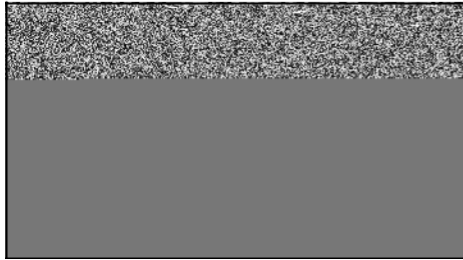

Figure 8
1. 0.5 Amp DC Only (Figure 8)
- One black lead (A) from stator
- White connector (B) output lead